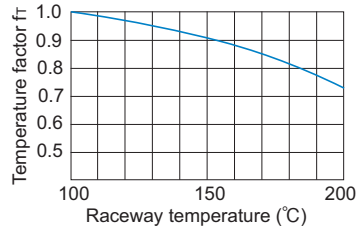

Fig.2 Temperature Factor (f_t)
- f_T : Temperature factor (see Fig.2 on **A11-7**)
If the temperature of the environment surrounding the operating Flat Roller exceeds 100°C , take into account the adverse effect of the high temperature and multiply the basic load ratings by the temperature factor indicated in Fig.2.